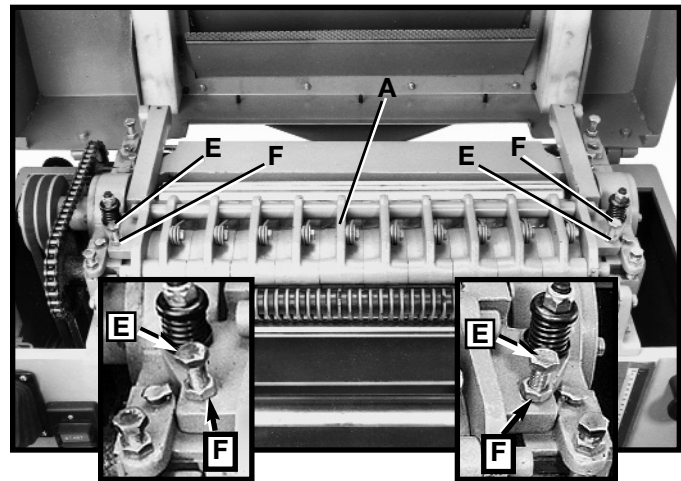

Fig. 37
The chipbreakers (A) Fig. 37, are located on top of the planer and extend downward around the front of the cutterhead. The chipbreakers will rise as stock is fed through the planer and “break or curls” the wood chips. The bottom of the chipbreakers must be parallel to the knives and set .040 below the cutting circle. To check and adjust the chipbreakers, proceed as follows:
5. If an adjustment to the chipbreakers is necessary, loosen two hex nuts (E) Fig. 37, and turn adjustment screws (F) until chipbreakers (A) touch gage block (B) at both sides of the table.